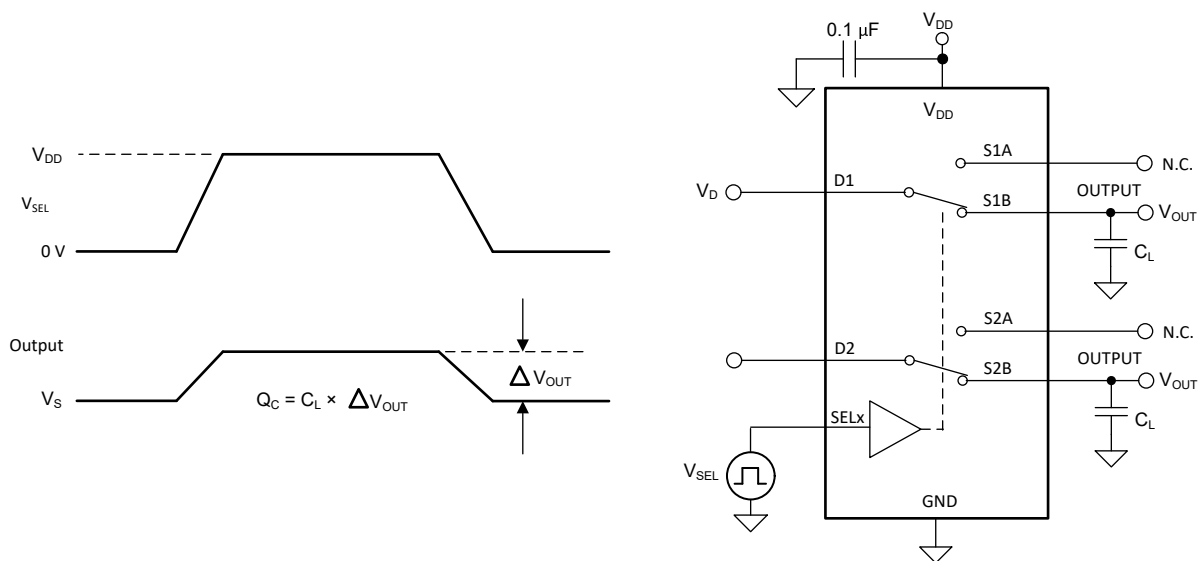

Figure 6-11. Charge Injection Measurement Setup
Any mismatch in capacitance results in a charge injected into the drain or source during the falling or rising edge of the gate signal. The amount of charge injected into the source or drain of the device is known as charge injection, and is denoted by the symbol  $Q_C$ . Figure 6-11 shows the setup used to measure charge injection from Drain (D) to Source (Sx).